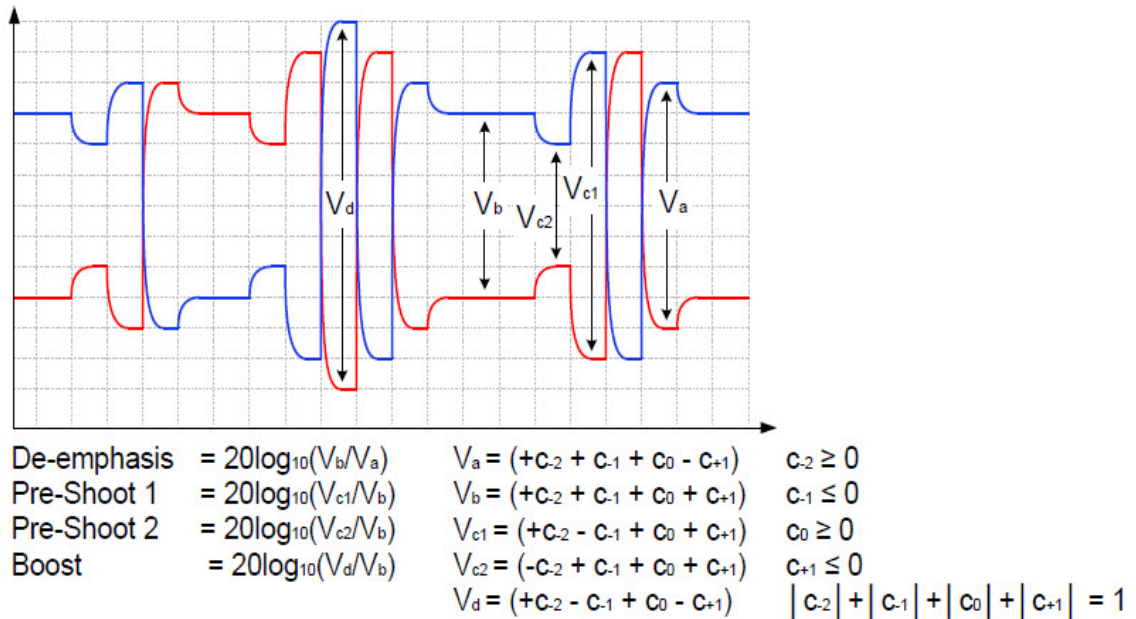

Figure 38 Waveform measurement points for preshoot and de-emphasis
64.0 GT/s PCIe signaling must support the full range of presets given in Table 8-2 (PCI Express Base Specification Revision 6.0). Presets are defined in terms of ratios, relating the pre-cursor and post-cursor equalization voltages. The pre-cursor (V_c) is referred to as pre-shoot, while the post-cursor (V_b) is referred to as de-emphasis. This convention permits the specification to retain the existing 2.5 GT/s and 5.0 GT/s definitions for Tx equalization, where only de-emphasis is defined, and it allows preshoot and de-emphasis to be defined such that each is independent of the other. The tolerances in Table 8-1 (PCI Express Base Specification Revision 6.0) also apply to 2.5 and 5.0 GT/s de-emphasis. The maximum swing, V_d , is also shown to illustrate that, when both c_{+1} and c_{-1} are nonzero, the swing of V_a does not reach the maximum as defined by V_d . The high frequency nature of PCIe signaling makes measurement of single UI pulse heights impractical. Consequently all amplitude measurements are made with low frequency waveforms as shown in Figure 38.
- 13 Computes their equalization voltages by using Matlab, and then calculates equalization ratios by using the formulae stated in Figure 38 (Figure 8-6 of the spec).